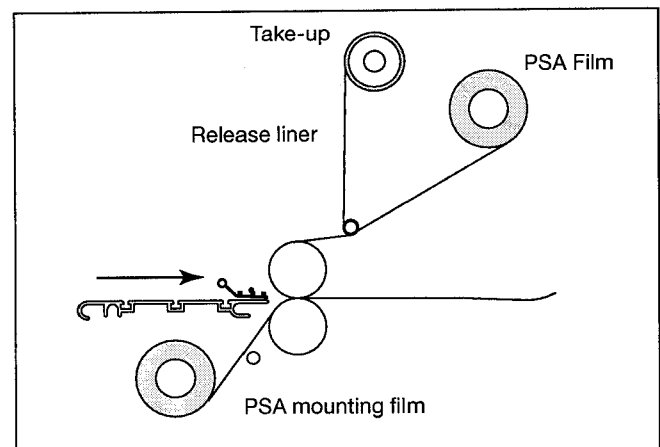

Fig. 6-16. Laminator Loaded for Decaling the First Pass with Film (Poly-in Shown).
1. Load the laminator as shown in Fig. 6-16.